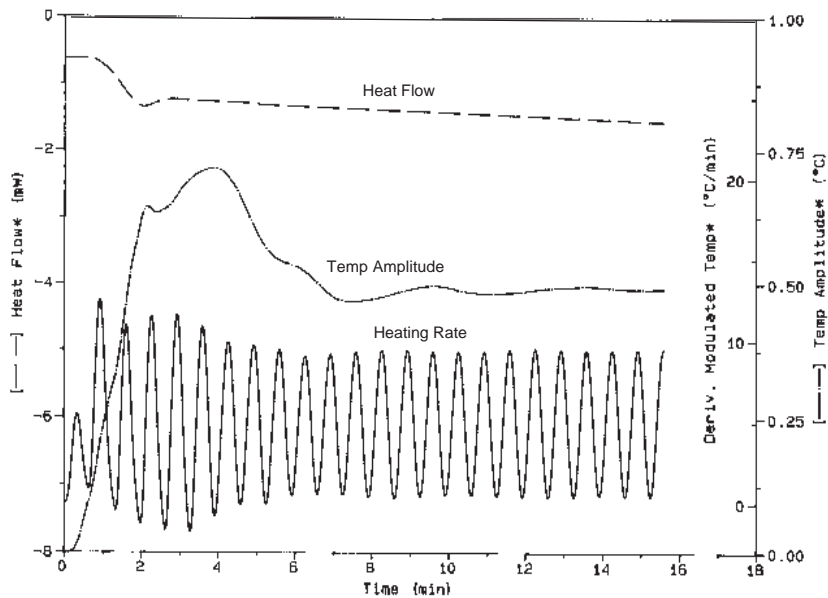

Figure C.8
Modulation amplitude is measured and controlled by the DSC module. Some amplitude instability will occur at the beginning of a method segment as the amplitude control stabilizes. (see Figure C.8 on the next page.) These control oscillations are not harmful to the heat flow deconvolution because the actual temperature and heat flow amplitudes are measured and used in the deconvolution calculations. Generally, these oscillations will dampen completely within 5 to 10 minutes after the start of the method segment.
The heat flow signal of an MDSC® ramp start-up looks similar to a glass transition with a trailing relaxation peak (see Heat Flow signal in Figure C.8). All data prior to the return to stable baseline (the first 5 minutes in Figure C.8) should normally be discounted. To avoid any possibility of the amplitude stabilization affecting the quality of a transition, start the ramp at a temperature that will provide a five (5) to ten (10) minute stabilization time prior to the transition of interest.